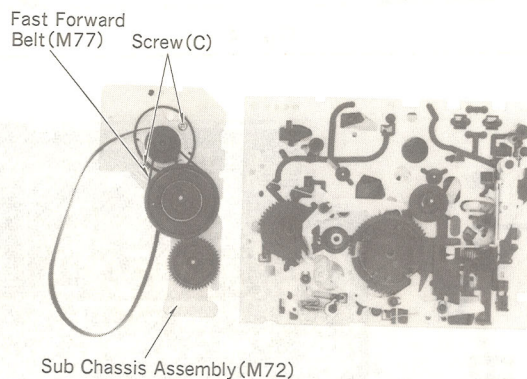

Fig. 10
3. When screws (C) is removed after detaching fast forward belt (M77), motor assembly (M71) can be removed. (fig. 10)